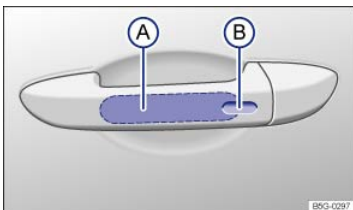

Fig. 60 Keyless Access system: Unlocking and locking sensors on the outside door handle.
Key to ⇒ Fig. 60 :
Your vehicle may be equipped with Keyless Access with push-button start, a keyless starting and locking system that unlocks and locks the vehicle without active use of a remote control vehicle key. All you have to do is touch a sensor surface on one of the front outside door handles ⇒ Fig. 60Ⓐ or push the Volkswagen emblem on the trunk lid ⇒ *Trunk lid* when a valid remote control vehicle key is within range ⇒ .
- *Keyless Entry*: Unlock the vehicle with the sensor surfaces on the inside of the door handles on the driver or front passenger door ⇒ Fig. 60Ⓐ or push the Volkswagen emblem on the trunk lid.
- *Keyless Exit*: Lock the vehicle with the sensor on the outside of the door handles on the driver or front passenger door ⇒ Fig. 60Ⓑ.